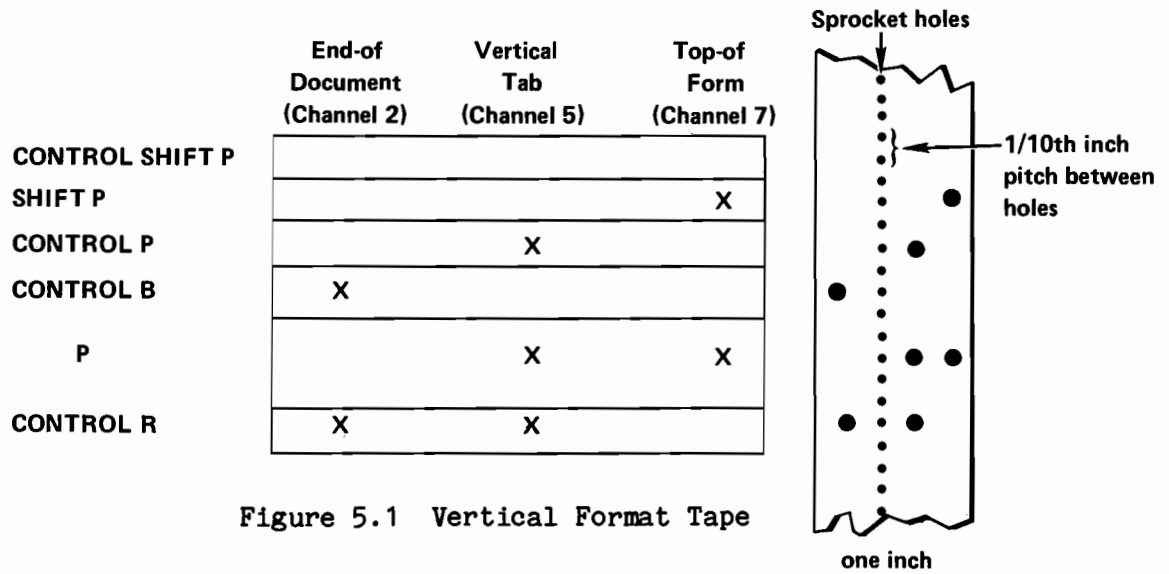

Figure 5.1 Vertical Format Tape
5. For an End-of-Document hole (in channel 2), press and hold the CONTROL key; then press B (see Figure 5.1).